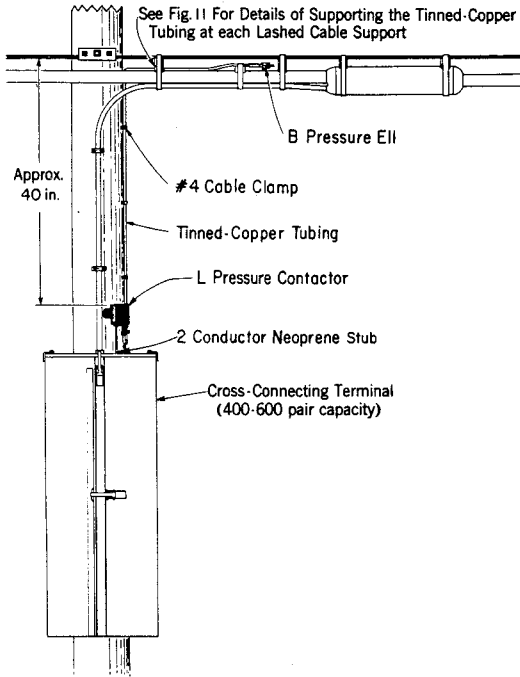

Fig. 9—Cross-Connecting Terminal (400- to 600-Pair Capacity)
5.06 Cross-Connecting Terminal—(400- to 600-Pair Capacity): When the L pressure contactor is installed at the location of a 400- or 600-pair cross-connecting terminal, as shown in Fig. 9, it may be necessary to place the B pressure ell on the cable sheath, also illustrated in Fig. 9. This installation procedure is necessary to permit the standard lengths of copper tubing and 2-conductor cord of the contactor to reach their respective terminating points.